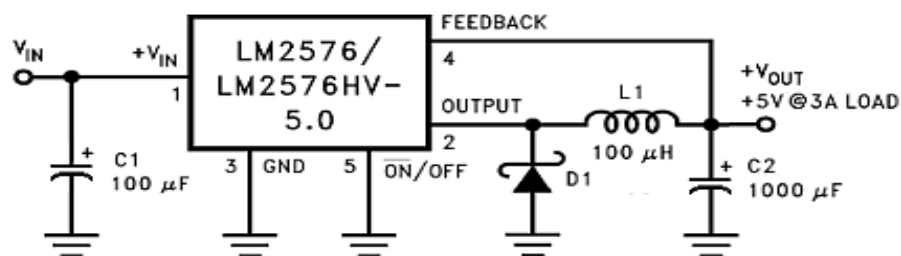

Figure 1. Buck regulator
1. Connect the circuit of a switching step-down (BUCK) regulator as shown in Figure 1.